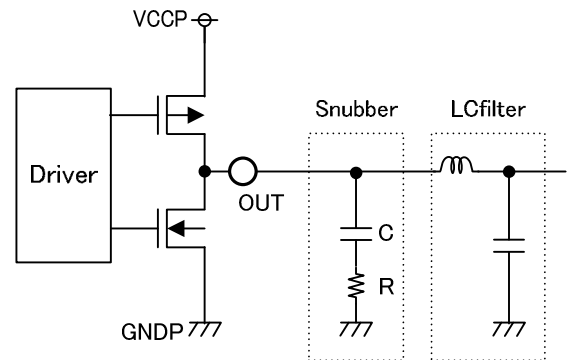

Figure 80. snubber schematic
- ① Measure the spike resonance frequency  $f_1$  of the PWM output wave shape (When it stands up.) by using FET probe in the OUT terminal. (Figure 80) The FET probe is to monitor very near pin and shorten ground lead at the time of that.
- ② Measure resonance frequency  $f_2$  of the spike as a snubber circuit fixed number  $R=0\Omega$  (Only with the condenser C, to connect GND) At this time, the value of the condenser C is adjusted until it becomes half of the frequency ( $2f_2=f_1$ ) of the resonance frequency  $f_1$  of ①. The value of C which it could get here is three times of the parasitic capacity  $C_p$  that a spike is formed. ( $C=3C_p$ )
- ③ Parasitic inductance  $L_p$  is looked for at the next formula.